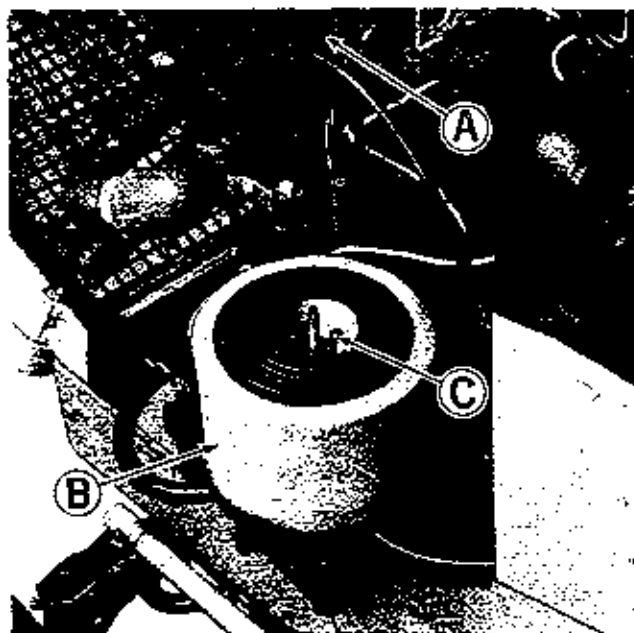

Figure 22. Air cleaner with cover removed on left side of engine.
See figure 22. All grass and chaff should be removed from the engine fins (A). **CAUTION: THE ENGINE FINS ARE VERY HOT AFTER THE ENGINE HAS BEEN OPERATED. DO NOT TOUCH THEM UNTIL THE ENGINE HAS BEEN ALLOWED TO COOL. NEVER SPRAY WATER ON A HOT ENGINE.**
2. See figures 22 and 23. Remove the foam pre-cleaner (B) and wash it in liquid detergent and water and squeeze dry.
4. Install the foam precleaner as shown in figures 22 and 23.
The engine air cleaner is made up of two types of filters. The foam filter (Figure 22, Item B) and a dry filtering element. The foam element should be cleaned and oiled every 25 hours as explained under the Every 25 Hour Maintenance
2. See figures 22 & 23. Remove the foam element (B) and clean and oil it as described in the Every 25 Hour Maintenance Service.
3. Remove wing nut (C) and remove the paper element from the air cleaner.
5. See figures 22 & 23. Replace the paper element and wing nut (C) and tighten it securely.
6. Install the foam element (B) over the paper element as shown in figure 22.